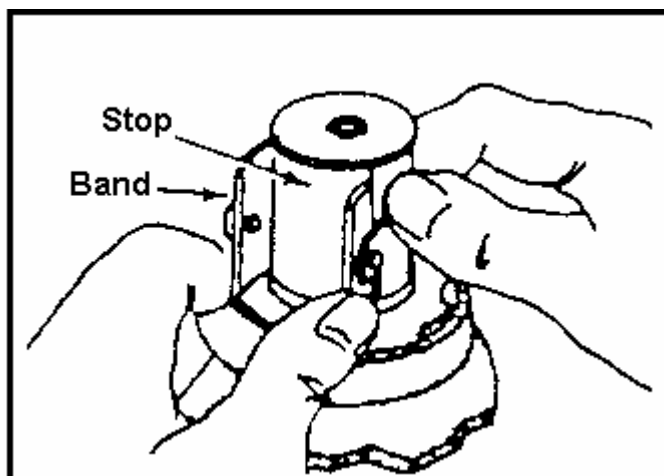

Figure 052-192-1118-1
**Remove an M21 Antitank (AT) Mine**
- b. Attach the safety band and safety stop (Figure 052-192-1118-1).